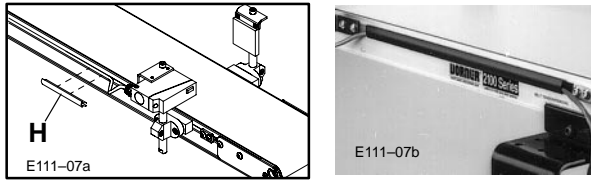

Figure 7: Closure Strip Mounting Detail
- c. To contain a long run of wiring cable in the conveyor T-slot channel, use several short lengths of T-slot Cover Strips (F) (Figure 7). Or, to completely contain a long run of cable, purchase T-slot Cover Strip (645656P) at length required.